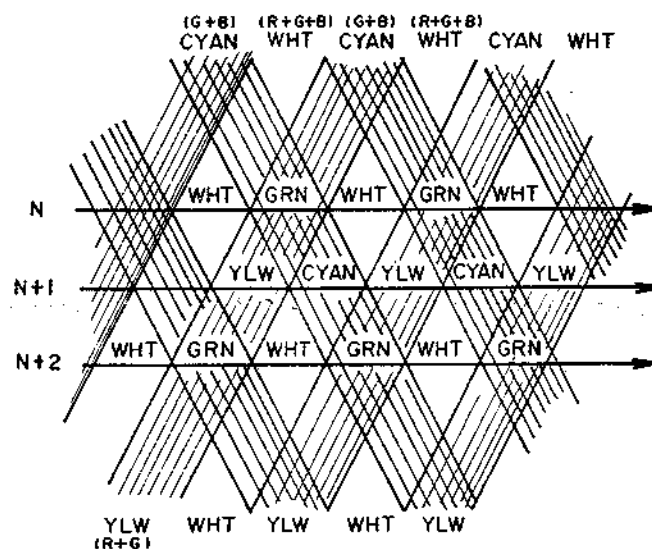
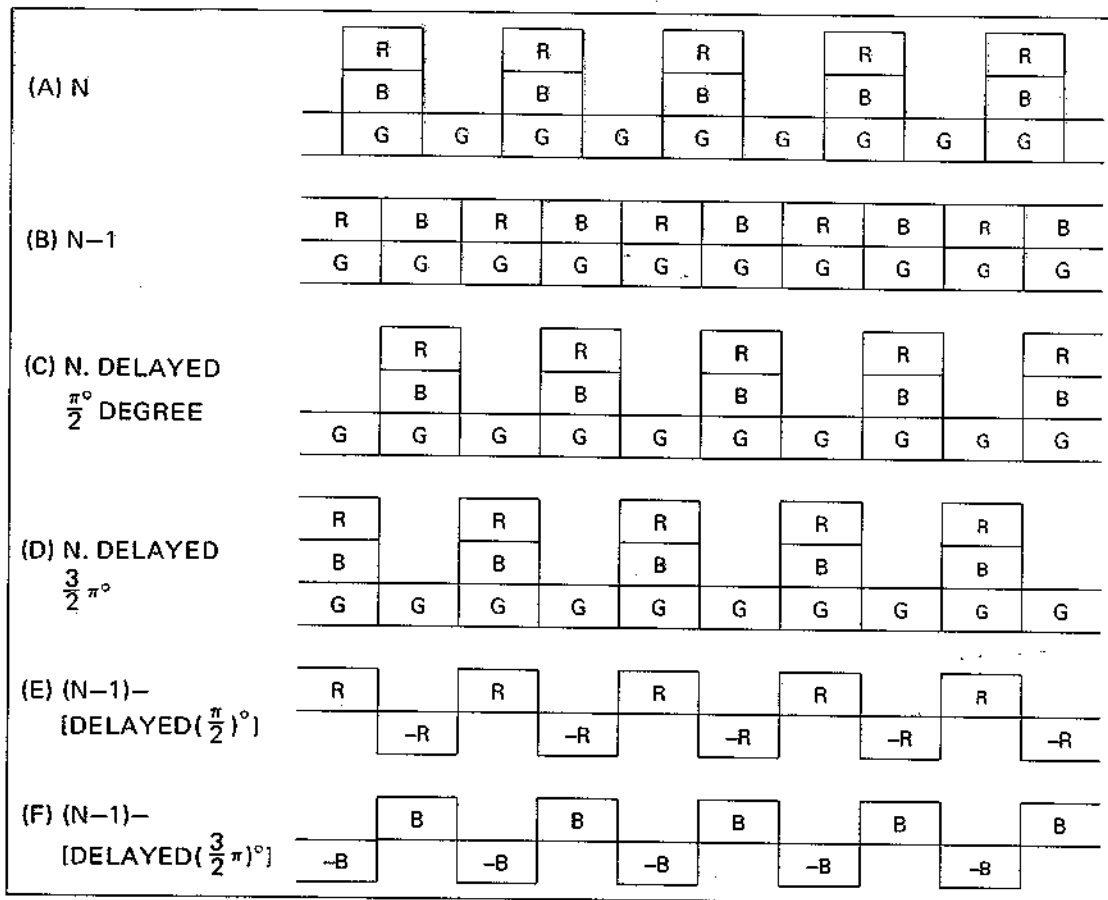
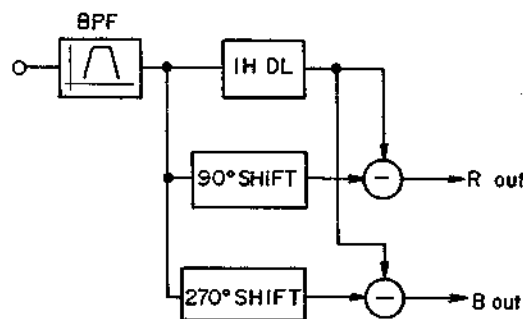

Fig. 5-14 Stripe Filter
Fig. 5-15 Output Waveforms
Fig. 5-16 Color Separation Circuit
On the stripe filter, yellow and cyan stripes intersect at a specified angle from the vertical as illustrated in Figure 5-14. Scanning takes place horizontally from left to right.
Suppose that a white subject is being shot. Various voltage waveforms resulting from photoelectric conversion through the stripe filter in the Saticon are shown in Figure 5-15.
The waveform in Figure 5-15, (A) is produced when the repeated white/green portion on the stripe filter is scanned along a straight line.
Then, as the next scanning line passes over the repeated cyan/yellow portion, the waveform shown in Figure 5-15, (B) is generated.
The basic circuit used for the purpose is shown in Figure 5-16. With VC-X2, a signal which has its phase shifted 270° is produced in IC9 AN6031. If waveform (A) in Figure 5-15 is supplied to this color separation circuit, it will be shifted 90° by TR5, resulting in the waveform shown in Figure 5-15 (C) being produced. In addition,
after being inverted and shifted  $270^\circ$  within IC9 AN6031, the waveform should appear as shown in Figure 5-15 ⑥. When the waveform ⑥, obtained by delaying waveform ⑤ by 1H, is electrically subtracted from the waveforms ③ and ④, the R-signal and B-signal are separated.
To detect the dark current, a black mask is mounted on part of the image pick-up tube as illustrated in Figure 5-14. The purpose of the black mask is to prevent the incident light from entering the tube for part of the horizontal scanning time. A black current is the current that flows at the time the masked portion is scanned by the beam. The output waveform is shown in Figure 5-15. During the time when the dark current only is flowing, the black level of the video signal is maintained at a given level for a period of time during which the clamp pulse is supplied to the base of TR1, which forms part of a clamp circuit consisting of C1, C2, TR1, R1 and R2. (See Figure 5-16.)